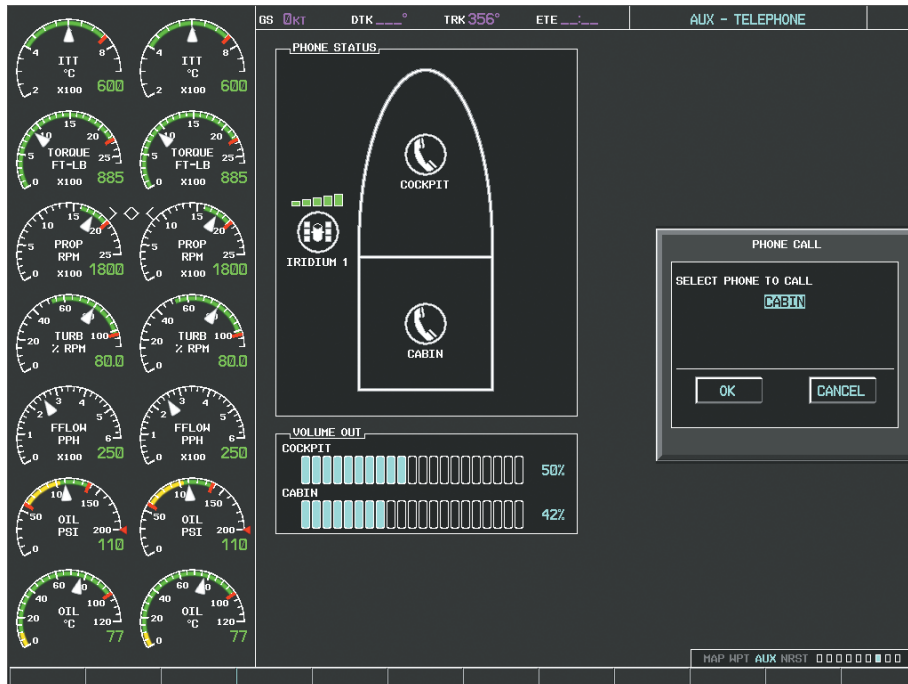

Figure 8-80 Initiating a Cabin Call
- 2) Select the **DIAL** Softkey on the MFD. A display similar to Figure 8-80 will be shown.